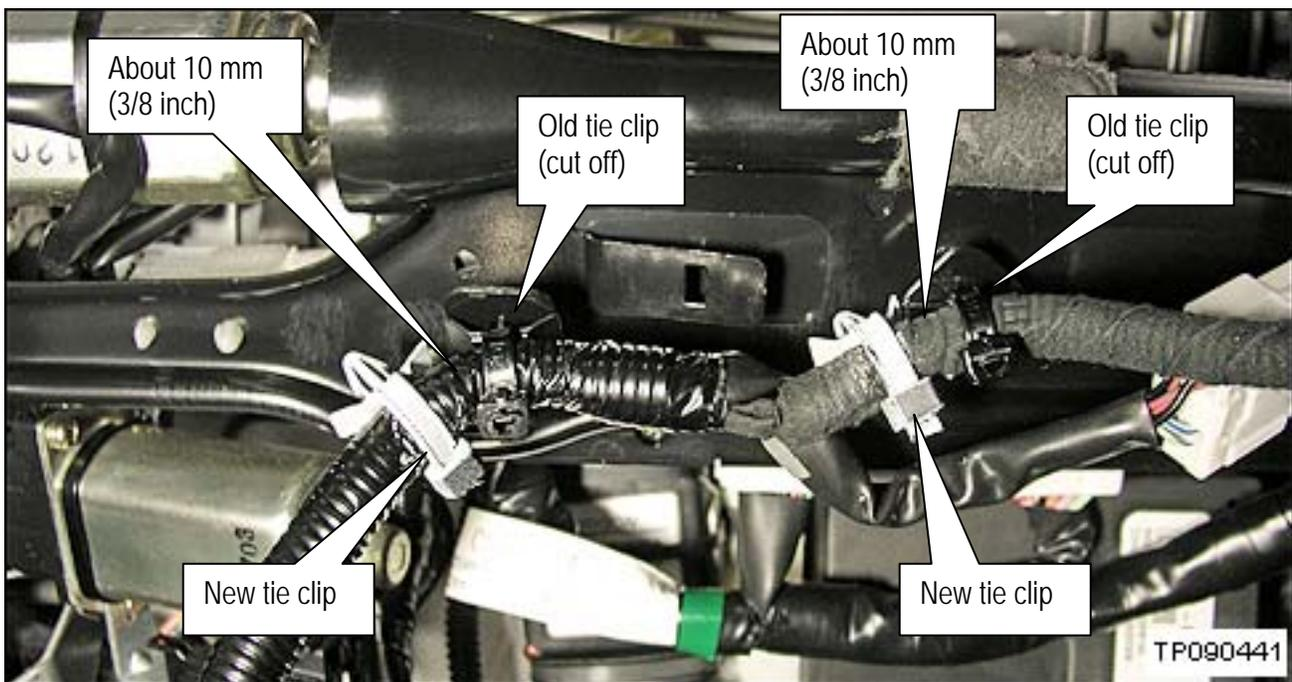

Figure 17
17. Under the seat, towards the front; install two new tie-clips at the positions shown in Figure 17.